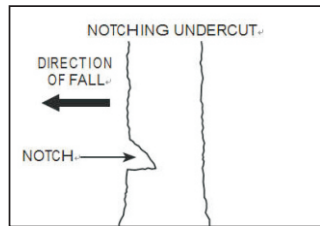

Fig.14
7.3.1 NOTCHING UNDERCUT (FIG.14)